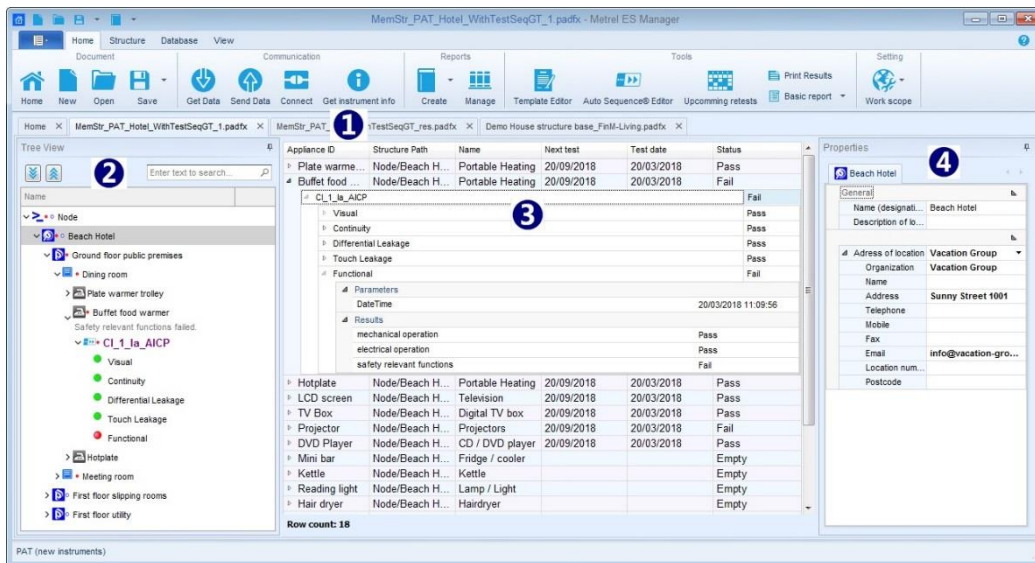

Figure 6.13: User workspace
User workspace is presented on the **Figure 6.13** below. Multiple Data structure files can be opened at the same time, independent of their Work scope setting. Their names are listed within the Document tab-strip (❶). The currently active Data structure file tab is highlighted.